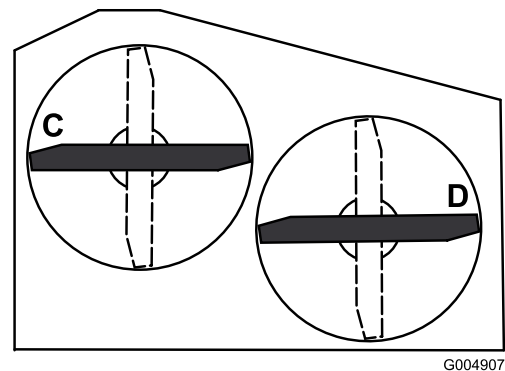

Figure 60
2. Position the blades side-to-side. Measure at **C** and **D** locations from a level surface to the cutting edge of blade tips (Figure 60).